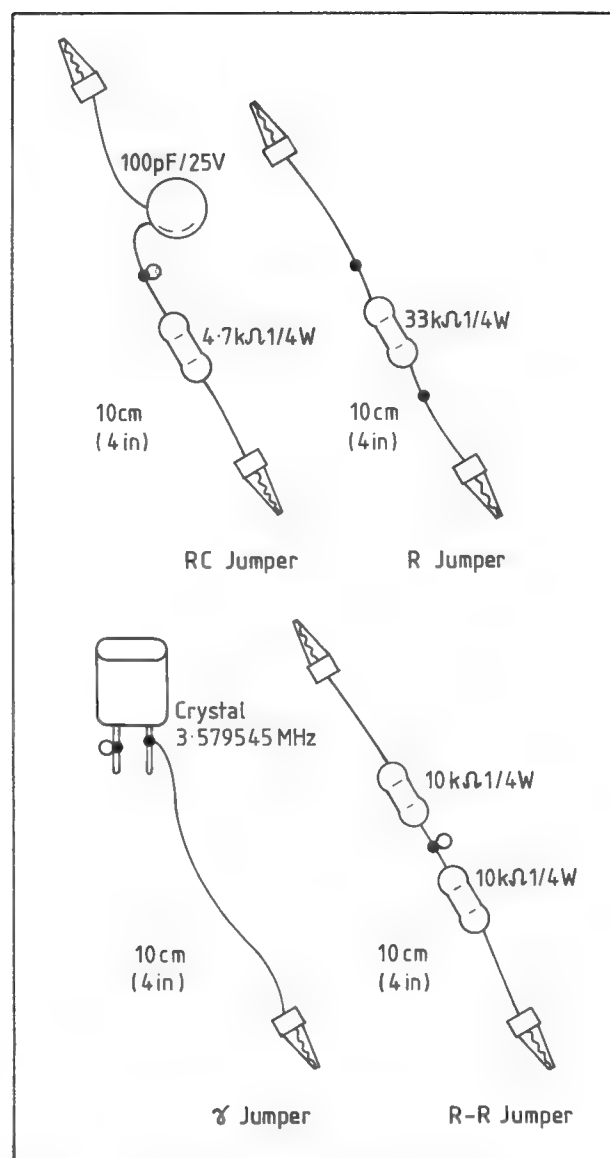

Fig 7.4 Jumpers Required for Alignment
- \* Jumper As shown in Figure 7.4, one off each